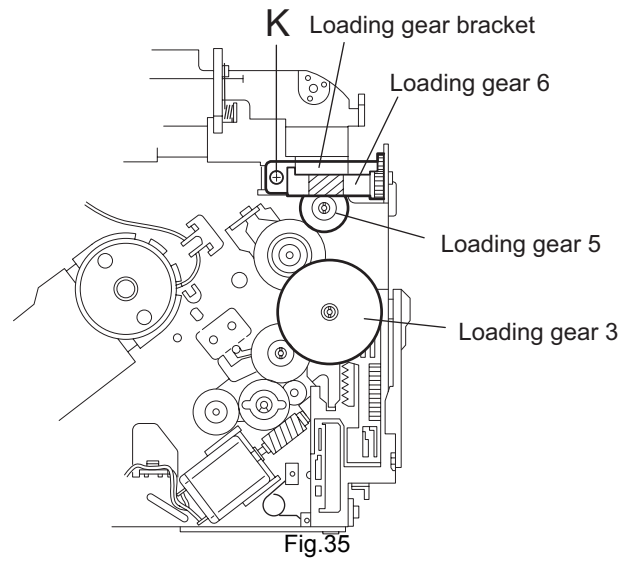

Fig.35
(See Figs.35 and 36)**
- Pull out the loading gear 3. (See Fig.35.)
- (1) Pull out the feed gear.